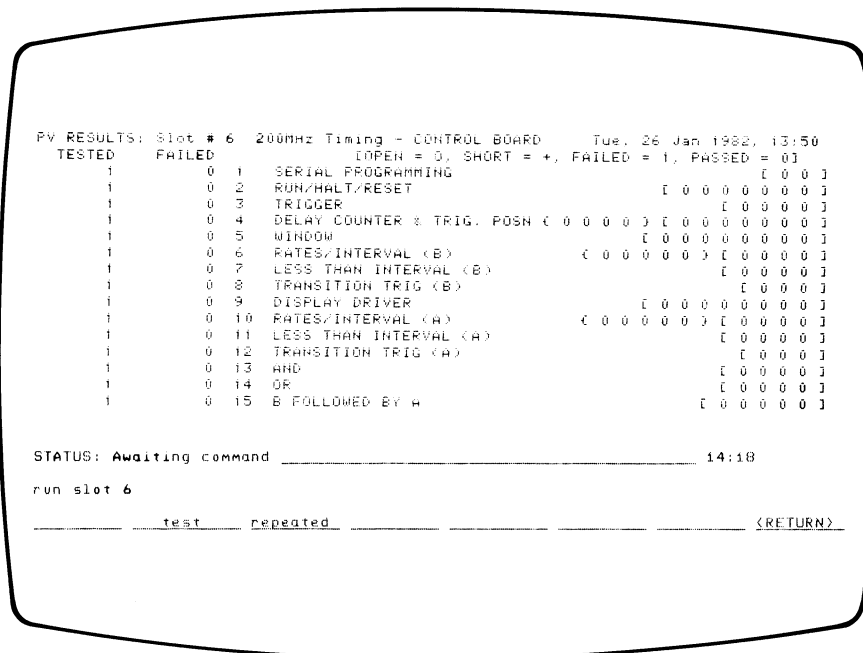

Figure 4-1. PV Test Display (16-channel system).
4-19. To verify that the entire board is operating correctly, perform the following steps on the mainframe keyboard: (FIGURE 4-1)
- Press [RETURN]. As shown in Figure 4-1, the screen will now show all 15 Control Board PV tests. Tests that pass will be indicated by "0", and failures will be indicated by "1". The screen will also show the number of times the tests are run, and the number of failures.